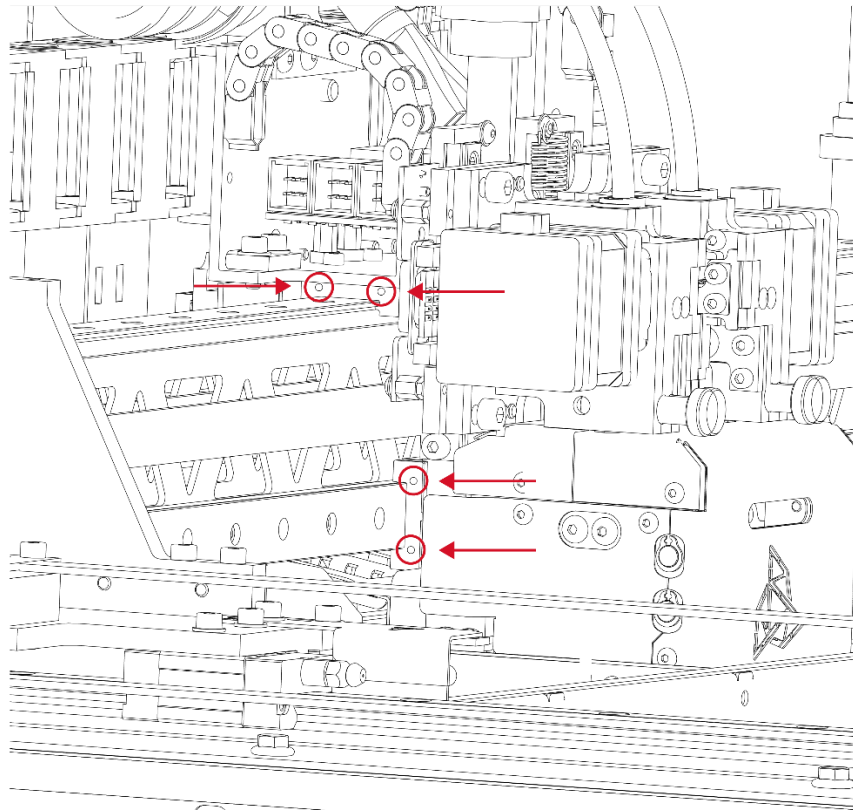

Fig. 79 Lubrication holes on the left side of the print module
9. Squeeze the dispenser for a few seconds to apply oil into the hole in the front carriage and the hole in the top carriage. The oil application points are marked red in Fig. 79.